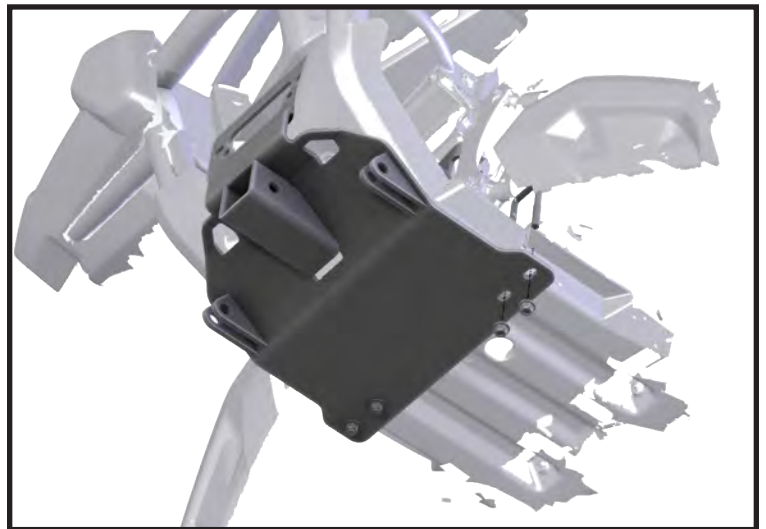

Figure 5: U-bolt Install
4. Slide front of Plow Mount (1) between the front bumper and frame of the machine as shown in **Figure 5**.
6. Secure rear of Plow Mount (1) using bolts (3.2) as shown in **Figure 5**.
8. Set plow mount (1) in place and loosely secure rear of plow mount (1) to mount brackets (5 & 6) using bolts (7.5) in the location marked in **Figure 5**.
9. Place spacer (3) between plow mount (1) and skid plate holes (C) and secure front of plow mount (1) using bolts (7.4) and nuts (7.1) as shown in **Figure 5 and the exploded diagram**. **NOTE:** Place the closed hole end of the spacer behind the plow mount (1) first. After loosely securing plow mount with bolt (7.4) and nut (7.1) as shown in the exploded diagram, swing open end of spacer down between plow mount (1) and skid plate, adding the other hardware.
11. **NOTE:** Plow mount (1) can be removed in the off season so it does not reduce the ground clearance of the machine. If you do not wish to re-insert hardware back into nut plate (2) and mount bracket (5 & 6), keep hardware with plow mount to be reused.
5. Repeat step 2 and reinstall the Plow Mount Plate and install the Roller Fairlead. See figure 5 & 6.
"Figure 5" Wide Fairlead
“Figure 5” Lift Hook Bracket Positions